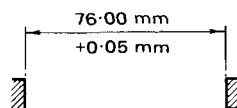

Fig. 3.99
(2) By stating a limit of size with a tolerance in one direction only (Fig. 3.99).